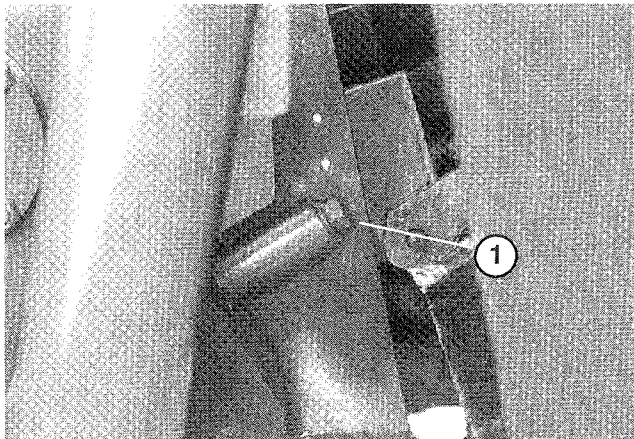

Figure 29
1. At front of aerator, remove (2) plugs from gear case ports (Fig. 29).